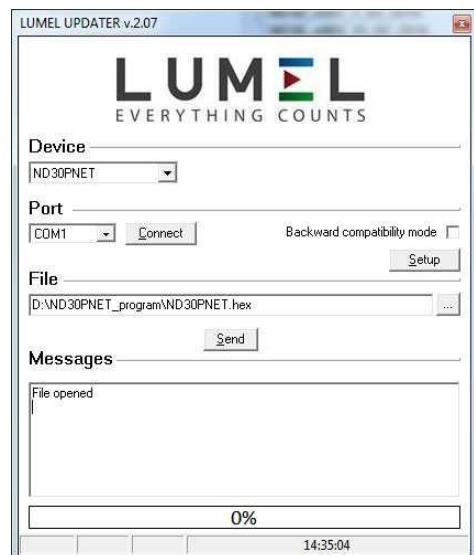

Fig.33. View of program window: a) eCon, b) firmware upgrade
Caution! After upgrading the software, the user should restore the factory settings of the meter, therefore it is recommended to preserve the initial meter parameters before upgrading it using eCon software. After starting eCon the serial port, speed, mode and meter address should be set in the settings. Then select ND30PNET meter and click *Configure*. To read all the settings, click the down arrow icon, then the floppy disk icon to save your settings to a file (you need to restore them later). After selecting *Update firmware* (in the upper right corner of the screen) *Lumel Updater* (LU) window will open - Fig. 33 b. Press *Connect*. *Messages* information window contains info about the progress of the upgrade process. When the port is properly opened the display shows: *Port opened*. Entering in the procedure of updating in the meter is done in two ways: remotely via LU (based on the settings in eCon - address, mode, speed, COM port) and by switching the power meter while pressing the button (while entering bootloader mode by pressing the button, the communication parameters: 9600, RTU8N2, address 1). The display shows *boot* with bootloader version, while LU shows the following message *Device found* and the name and version of the connected device. Press the button "... " and specify the update file of the meter. When the file is properly opened, the following message is displayed *File opened*. Press the button *Send*. After successful upgrade the meter switches to normal operation, and the information window shows *Done* and the upgrade duration. After closing LU window, go to the group of parameters *Service parameters*, select *Set the meter default parameters* and press the *Restore* button. Then press the folder icon to open the previously saved settings file, and press the up arrow icon to save the settings in the meter. The current software version can also be checked by reading the greeting messages of the meter after the power is turned on.